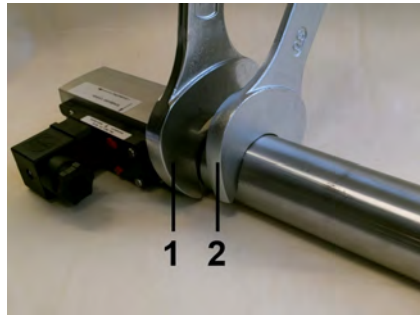

Fig. 12: Screw in the device
3. Keep turning in the adapter union (Fig. 12/2) while holding the process connection of the device locked (Fig. 12/1) until the connection is tight.